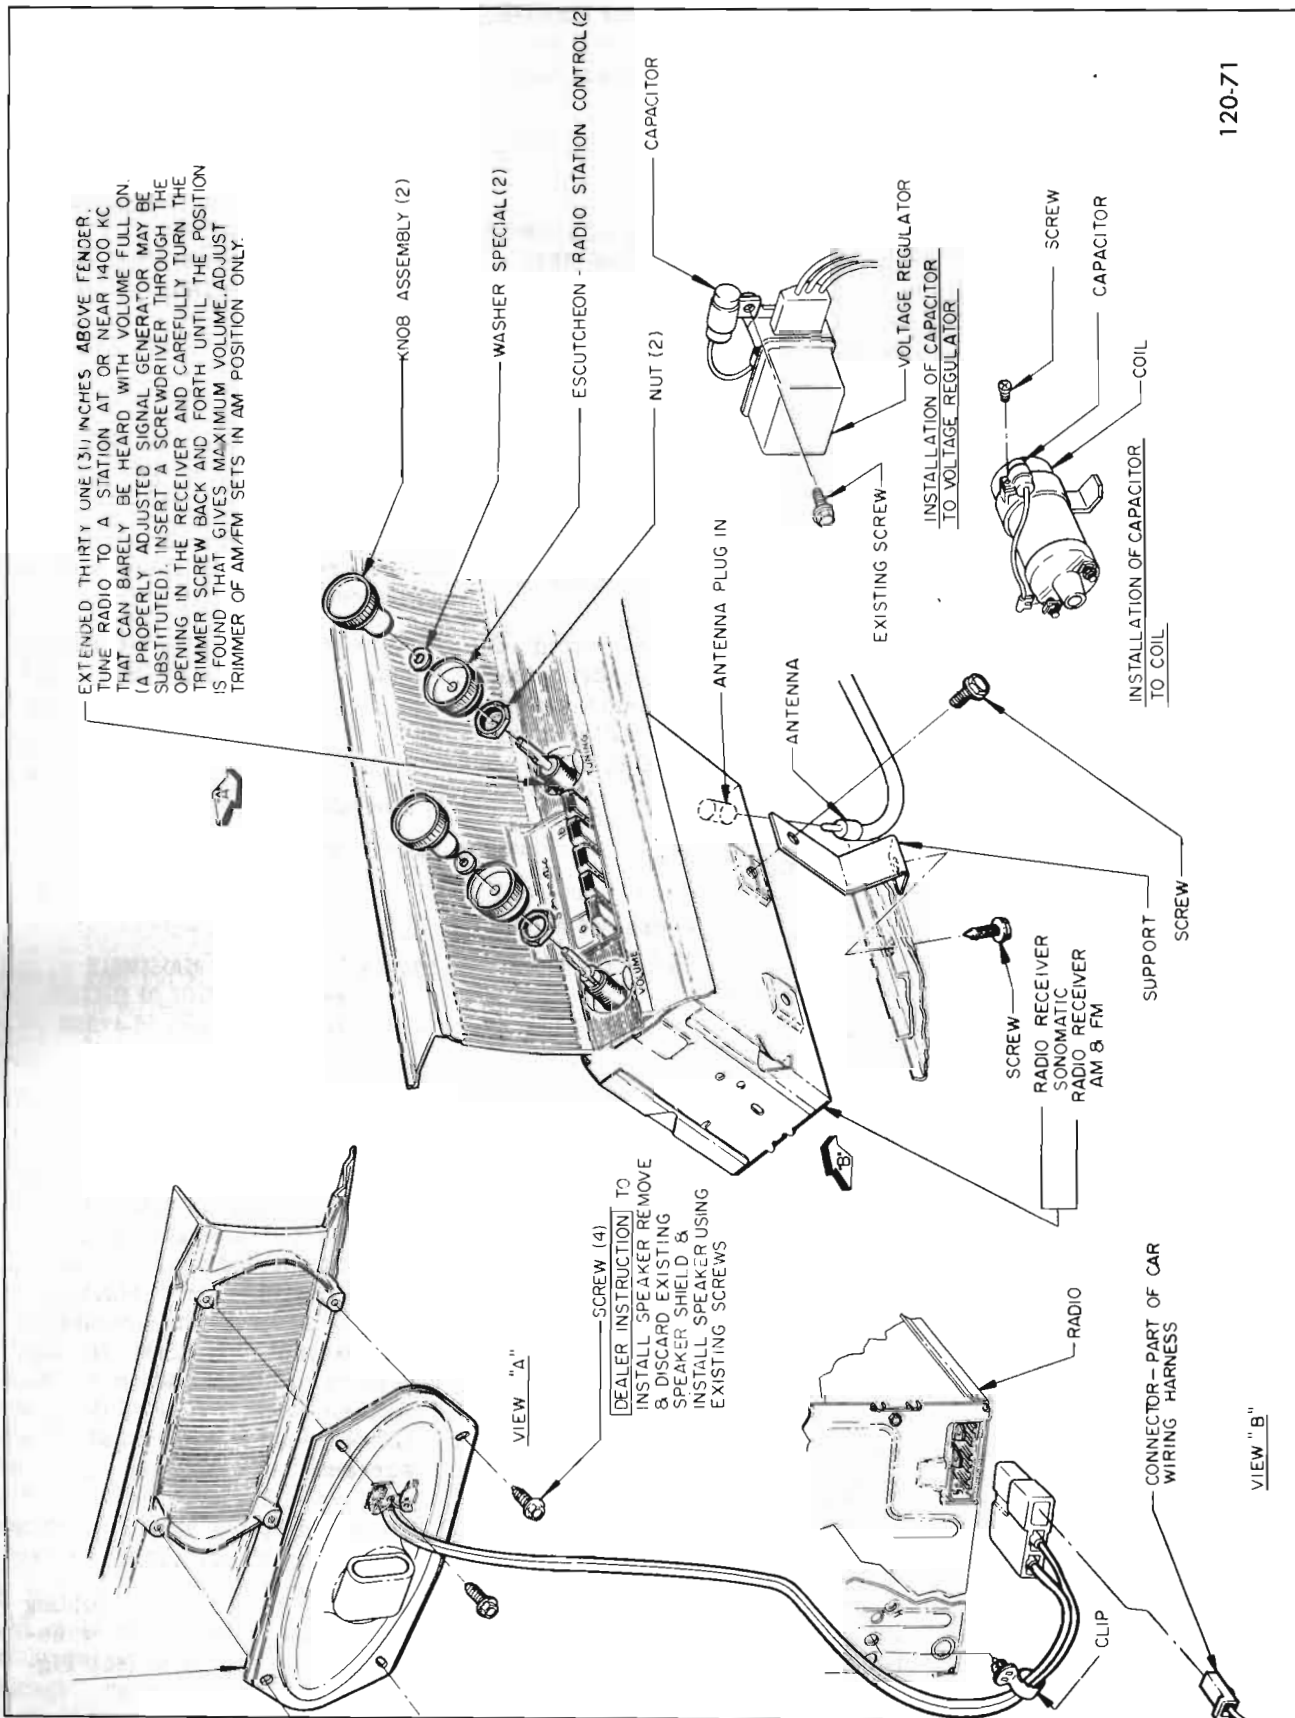

Figure 120-71—Radio Receiver Installation - Special and Skylark
2. Pull off receiver control knobs and unscrew two nuts holding receiver to instrument panel. (See Figure 120-71).
1. Pull off radio control knobs and unscrew nuts securing receiver to instrument panel. (See Figure 120-71.)
5. Remove screw holding support to receiver (see Figure 120-71) and withdraw receiver from underside of dash.